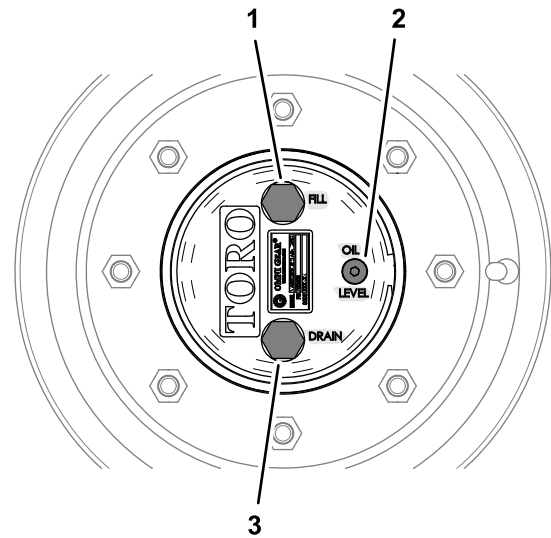

Figure 87
1. With the machine on a level surface, position a wheel so that the fill plug is at the highest (12 o'clock) position and the drain plug is at the lowest (6 o'clock) position (Figure 87).
1. With the machine on a level surface, position a wheel so that the fill plug is at the highest (12 o'clock) position and the drain plug is at the lowest (6 o'clock) position; refer to Figure 87 in Checking the Planetary-Gear-Drive Lubricant \(page 66\).